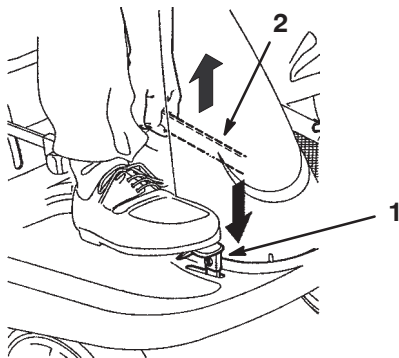

Figure 2
1. Push the brake pedal (Fig. 2) down and hold it.
2. Lift the parking brake lever (Fig. 2) up and gradually take your foot off of the brake pedal.
1. Push down on the brake pedal (Fig. 2) and hold it.
2. Push the parking brake lever (Fig. 2) down and gradually release the brake pedal.